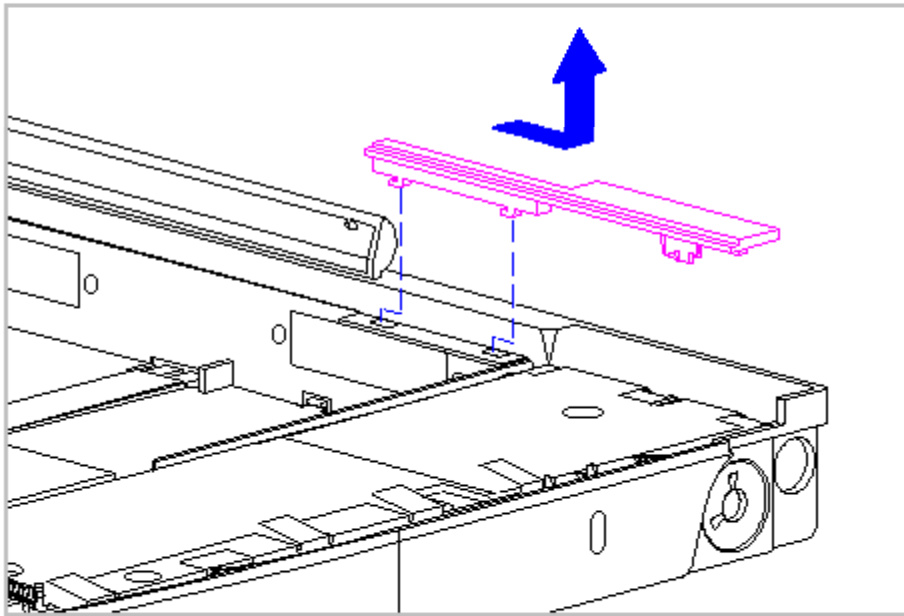

Figure 5-66. Removing the Trough from the CPU Base
9. Slide the trough at the rear of the CPU base to the right, then lift up to remove (Figure 5-66).